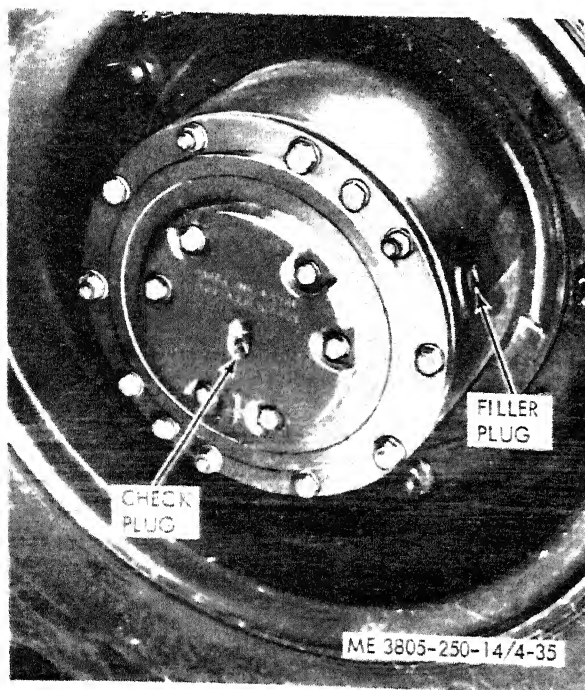

Figure 4-35. Planetary service.
b. *Planetary Service.* Move the loader until the arrow on the planetary cover (fig. 4-35) points to the ground. Remove the oil level check plug. Oil should run out the opening. If the level is low, add oil as necessary. Refer to the Lubrication Order for the correct lubricant. Planetary capacity is 6½ quarts.